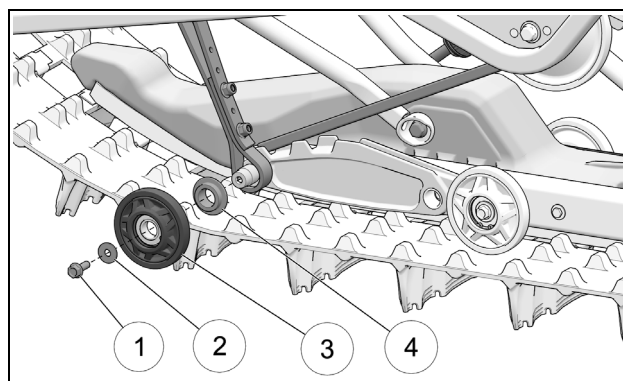

Figure 9
- Loosen and remove assembly bolt (1) and washer (2) from wheel (3) located next to long end of suspension spring. Remove wheel and spacer (4) from wheel shaft. Figure 9.